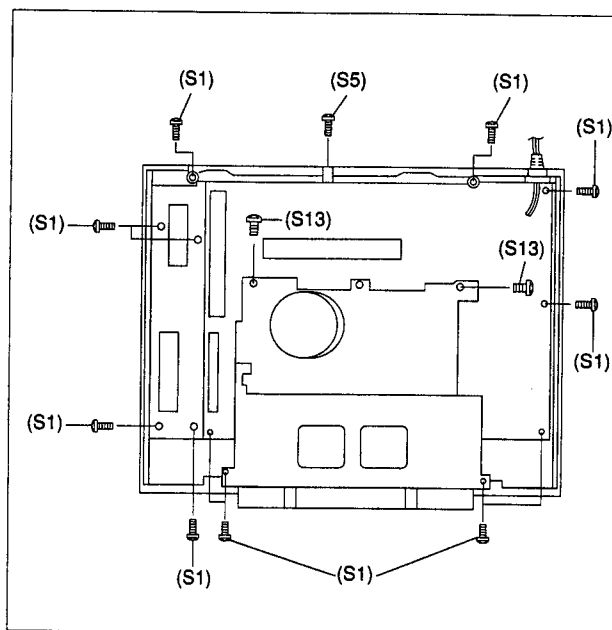

Fig. 1-3-1
- (1) Remove the Top cover, Front panel assembly, CN1 of the SW/JACK board assembly and CN3/CN5 of the DISPLAY board assembly.
- (2) Take out 12 screws (S1), 2 screws (S13) and 1 screw (S5) as shown in Fig. 1-3-1.